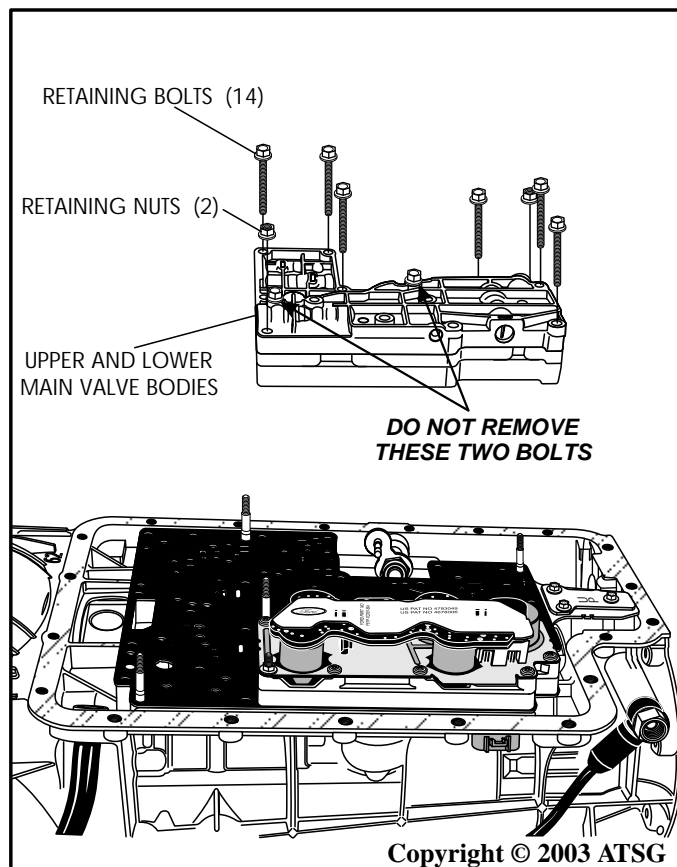

Figure 50
5. Remove two main valve body retaining nuts and the 14 bolts, as shown in Figure 50, and remove upper and lower valve bodies together as a package.
- Note: Do not remove the two bolts holding the upper and lower valve bodies together. Refer to Figure 50.**